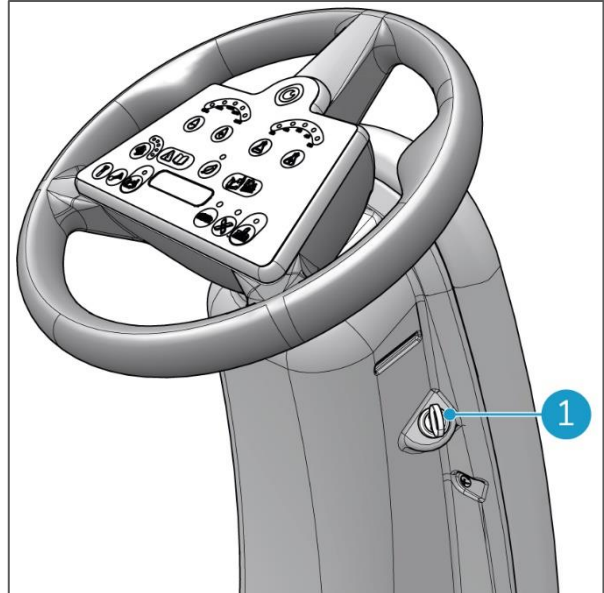

Figure 64
1. Turn the ignition key to the OFF position and keep the key with you during maintenance (Figure 64, pos 1).